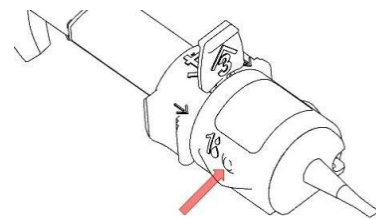

Fig. 1
3. Fully introduce the cannula (23-27G) of a syringe filled with viscoelastic material into the small aperture indicated with '1' (Fig. 1), maintaining a slight pressure on the cannula tip. Inject the viscoelastic solution through the aperture. The injected quantity of visco is sufficient as soon as the IOL optic is covered by the viscoelastic solution.